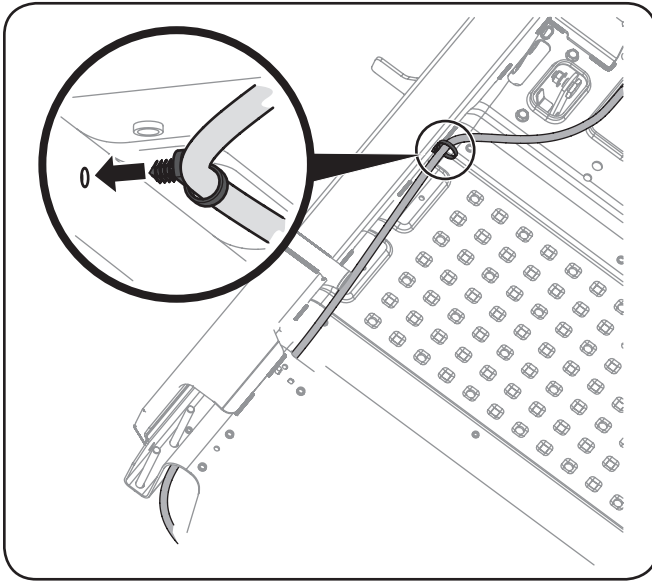

Figure 1-15
15. Route the harness as shown in Figure 1-15 for the Z-Force models.
- b. Feed the headlight wire harness along the bottom of the frame and then up through the larger rectangular frame hole. See Figure 1-15.